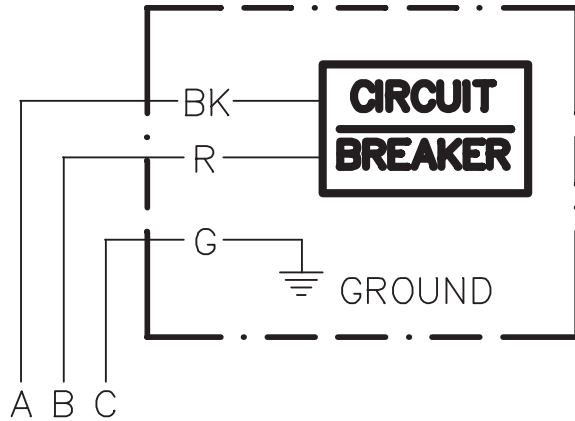

Fig. 18: Wiring Connections
**WARNING:** Using a multi-meter, check the following voltages at the circuit breaker panel prior to connecting any equipment. Make sure proper polarity is followed and house ground is proven. (See Fig. 18.)